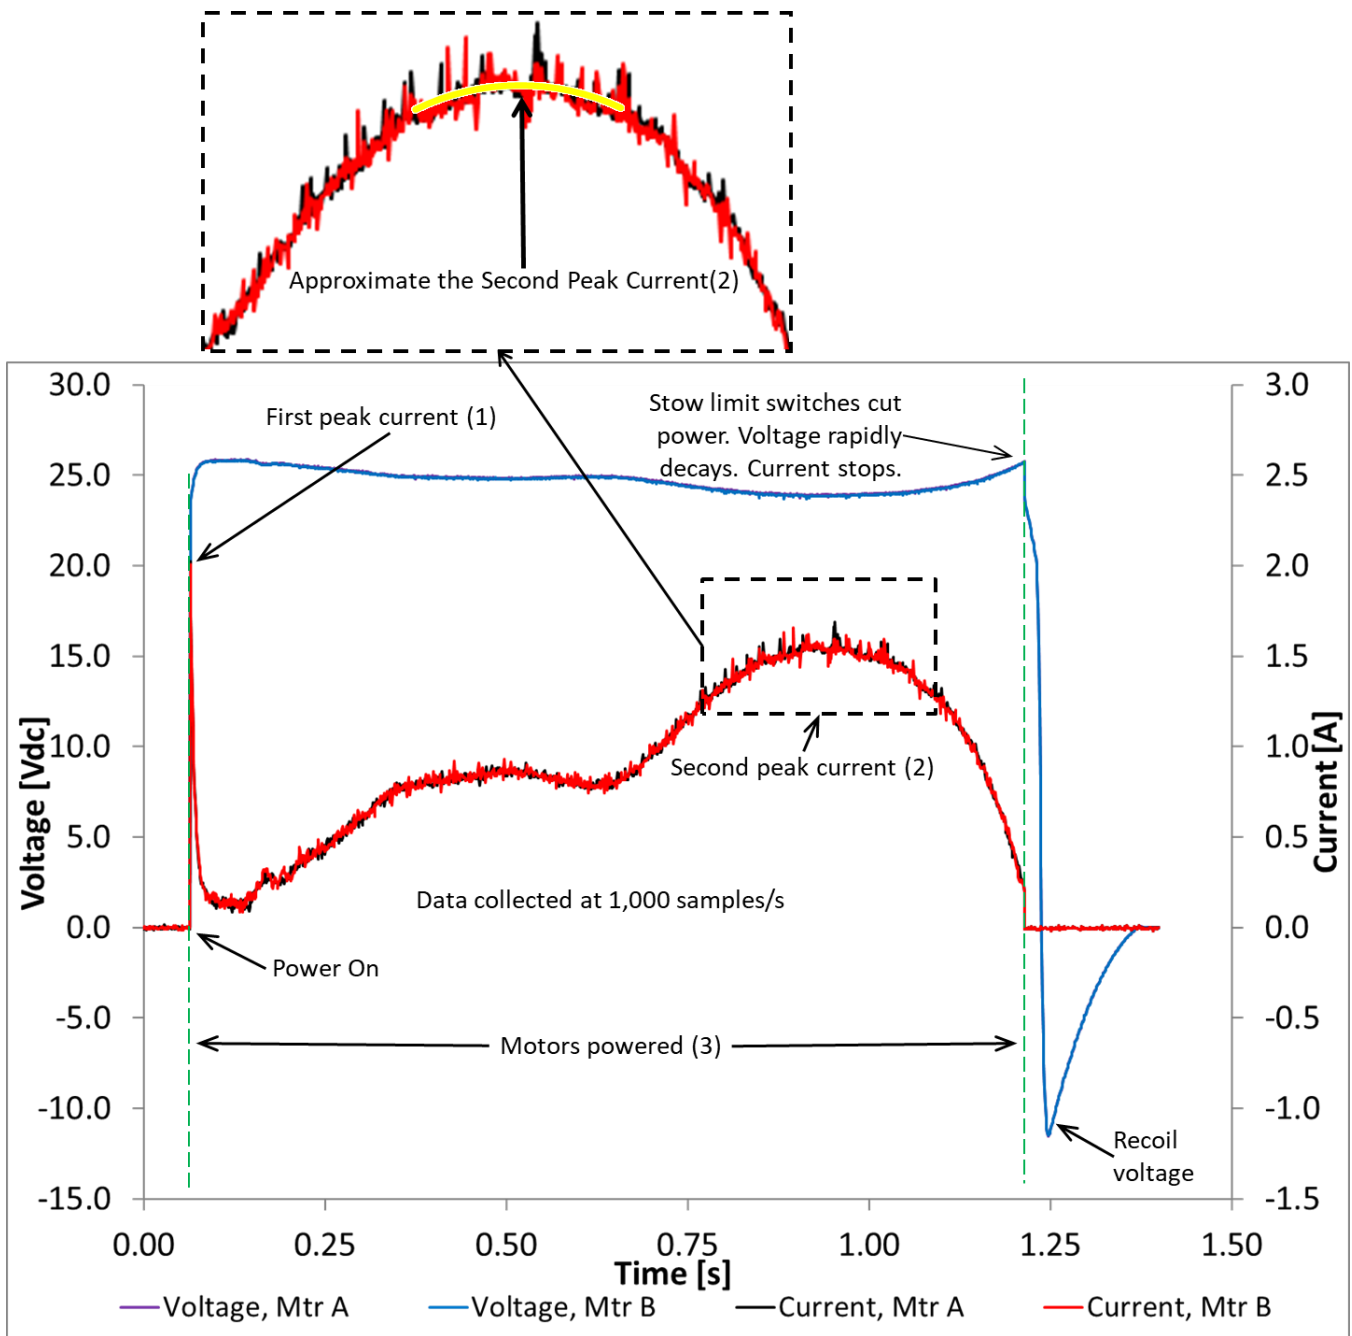

Figure 9-5: Example Stow voltage and current profiles at NTP
9.4.6	To Stow the Lightband: <ol style="list-style-type: none"> 1. Read through this entire step. <ol style="list-style-type: none"> a) Assign personnel and responsibilities prior to start of operation. 2. See Figure 9-5 and Table 9-1 for the anticipated current draw and power duration. 3. Designate a person to watch the power source output display. <ol style="list-style-type: none"> a) Manually cut power if the current limit is reached or the timer relay runs longer than specified. 4. Turn on the power source output. 5. Verify the oscilloscope trigger is active and ready to acquire data. 6. Activate the timer relay. This will send power to the motors and Stow the Lightband. <p>If the designated person needed to manually cut power, contact PSC per Section 5. A visual inspection of the Lightband may be performed, but do not change configuration.</p>
9.4.10	Figure 9-5 shows example Stow voltage and current profiles. Complete Table 9-1 to verify all parameters are within tolerance. Single data point exceedances are acceptable. Also, a slow sample rate may alias data. Do not filter data. Contact PSC if a discrepancy is found. Remember to account for non-zero offsets in the voltage or current measurements.